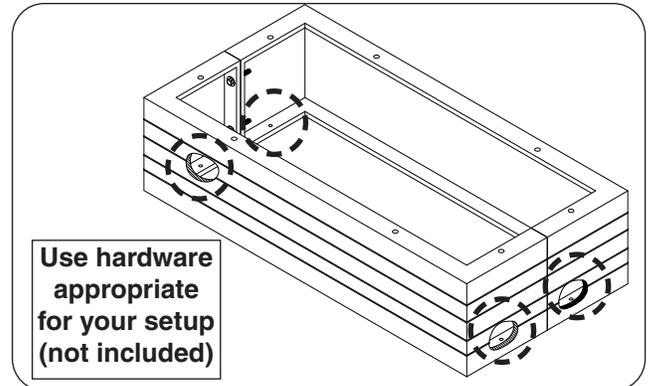

Fig. 20-2 Mount hearth
1. Using appropriate mounting hardware for the floor material/construction, secure the unit into the floor. The interior of the unit has four $\frac{1}{2}$ " holes that will allow for the unit to be fastened to the floor. See Fig. 20-2.